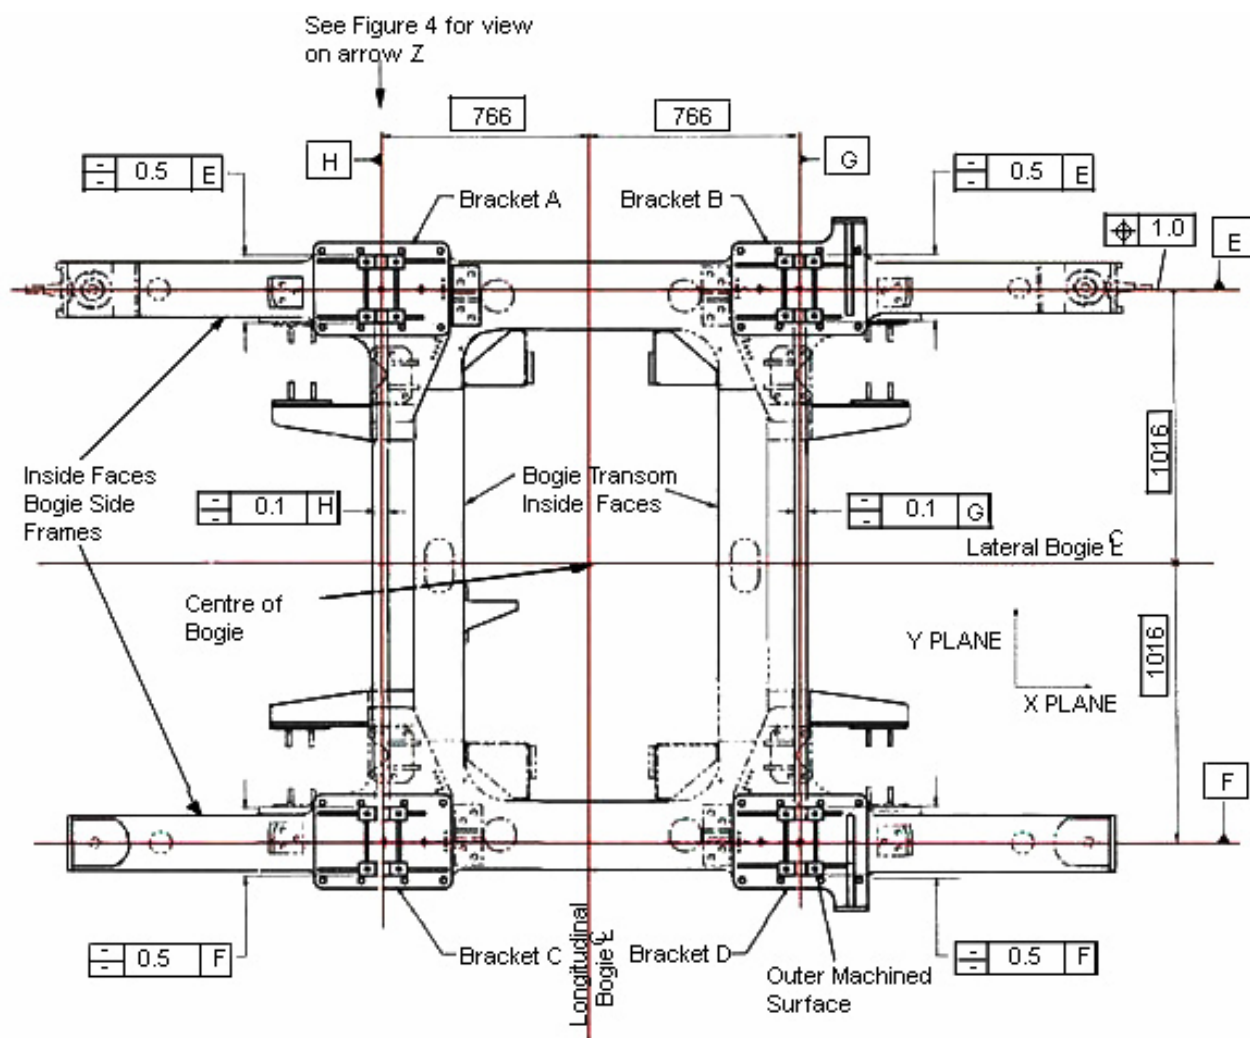

Figure 3: Alignment of Axlebox Pivot Brackets (View on Underside of Bogie Frame)
C2. Explanation of the required alignment geometry (see Figure 3):
Table 1: Key to Geometrical Tolerances on Figures 3 and 6
C3.1 The four bearing plates shall be refitted to their original positions, according to the stamped identification marks (see Figure 3).
- c) Identify and locate each bracket according to the identification marks made in Part A (see Figure 3).